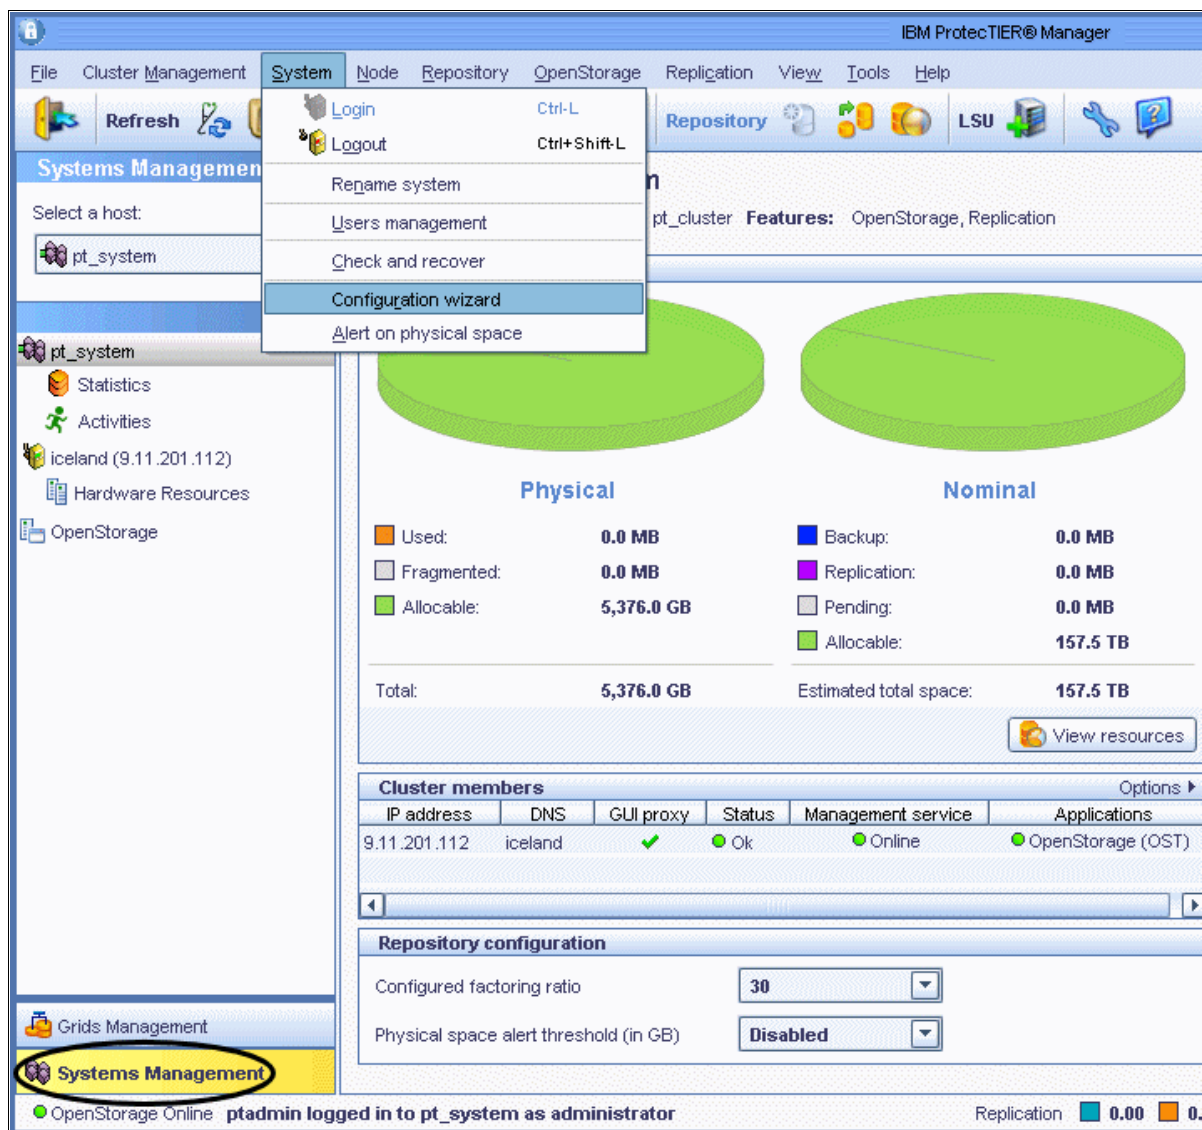

Figure 5-34 Getting to the Configuration Wizard
1. Log in to the ProtecTIER Manager GUI. Make sure that the Systems Management pane is selected (which will be highlighted in yellow) at the bottom left corner of the GUI, as shown in Figure 5-34.
2. Go to the **System** menu and select **Configuration wizard**, as shown in Figure 5-34.